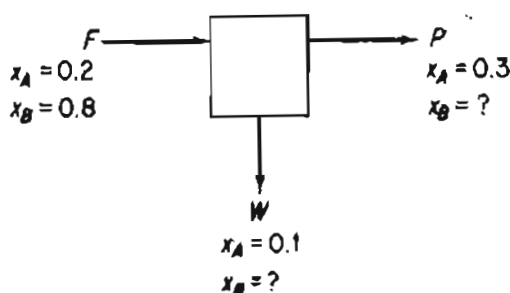

Figure P7.2
- *7.2** Examine the process in Figure P7.2. No chemical reaction takes place, and x stands for mole fraction. How many variables are unknown? How many are concentrations? Can this problem be solved uniquely for the unknowns?